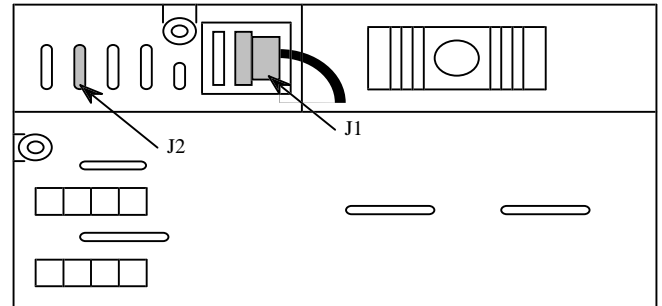
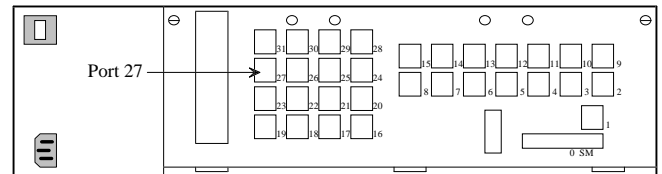
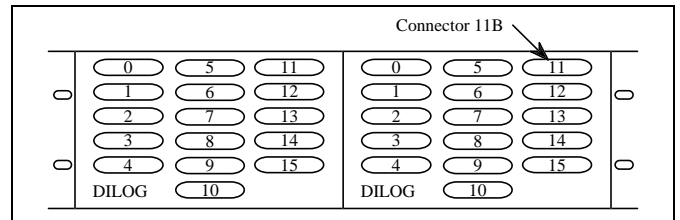
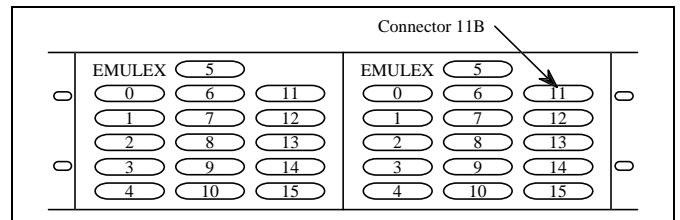

Figure 6 - Back View of ACU
Figure 7 - Back View of Site Controller Computer
Figure 8 - DILOG Distribution Panels
Figure 9 - EMULEX Distribution Panel
☐ **Remove Old Data Link Cable:** Remove the cable connecting J2 on the ACU (see Figure 6) to Port 27 on the Site Controller computer (see Figure 7). If connections to the Site Controller computer are through DILOG or EMULEX panels, the cable goes to connector 11B (see Figure 8 or Figure 9) instead of Port 27.
☐ **Remove Old TU Harness:** Remove the cable connecting J1 on the ACU (see Figure 6) to the TU radio in
- For connection to the latest 19A149302P9 Site Controller (identified by the modular connectors on its back panel), use a 19B804709P1 data link cable and connect to Port 27 on the Site Controller (see Figure 7).
- For connection to an earlier 19A149302P1 through -P8 Site Controller (identified by the DILOG or EMULEX panels), use a 19B804731P1 data link cable and connect to connector 11B on the DILOG or EMULEX panels (see Figure 8 or Figure 9).